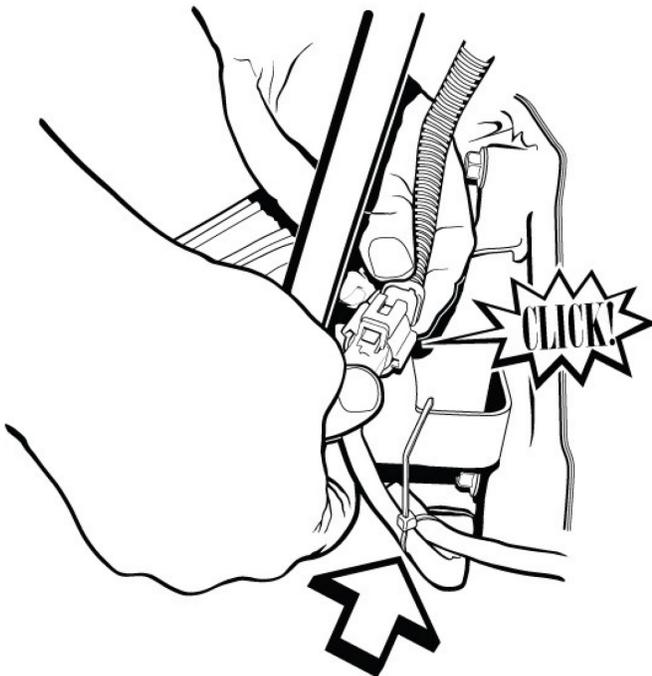
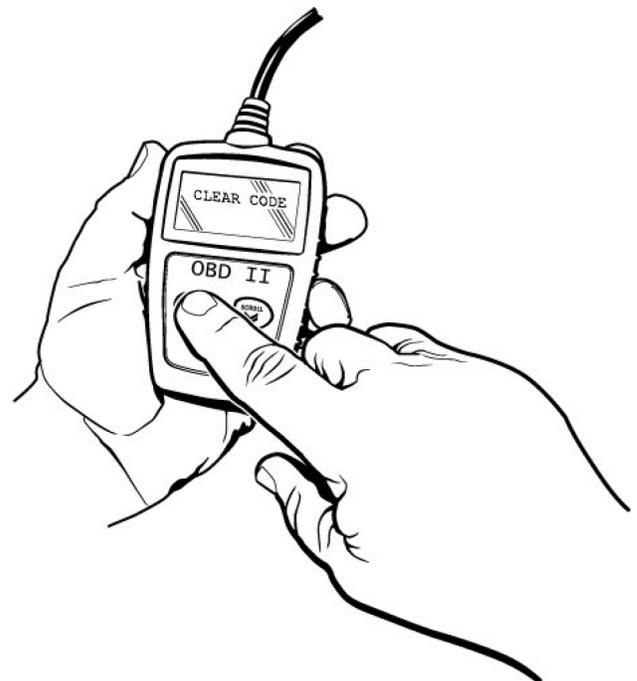

FIGURE 5
FIGURE 6
7. Connect the new sensor into the existing harness, making certain the connector halves line up properly (FIGURE 5). Finally, secure the sensor wire with a zip tie where necessary to avoid any chafes, snags, or burns. If the vehicle was producing a trouble code, make sure to clear it with a scanner (FIGURE 6).